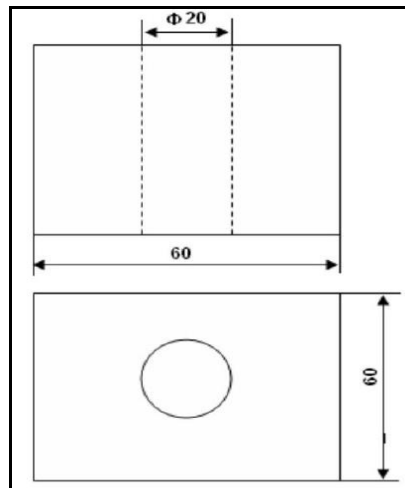

Figure 1.3. Spur gear
1. Design a pattern for the casting which is to be made of steel by considering Shrinkage and Draft allowance as shown in the Figure 1.3.